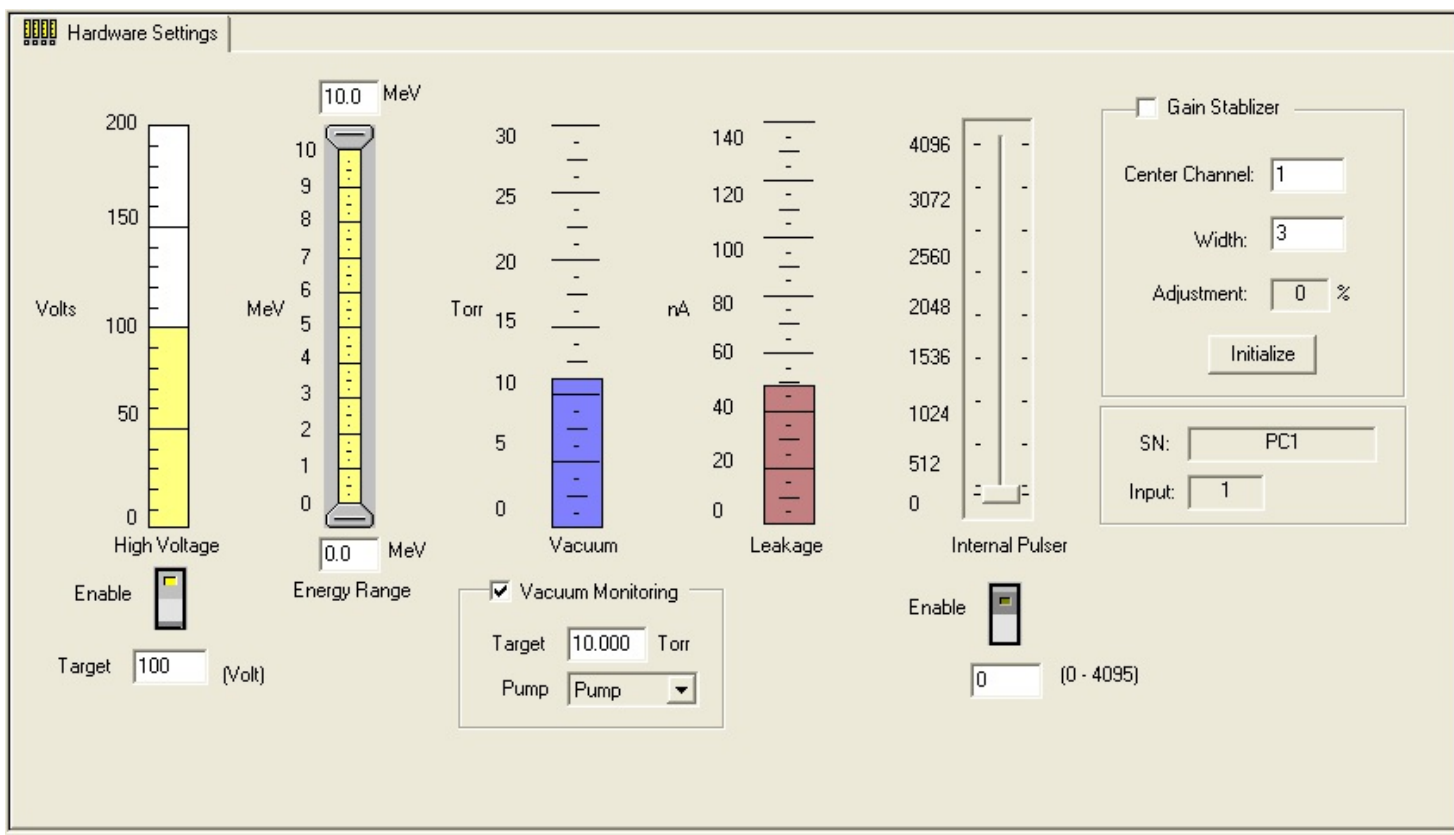

Fig. 10. Alpha Duo or Mega Chamber Hardware Readouts in AlphaVision
- **AlphaVision** — On the Detector Grid, click on the desired alpha chamber, then click on the Hardware icon on the outlook sidebar. Select the vent, pump, and hold settings as needed from the **Pump** droplist. (See Fig. 10, page 17.)
AlphaVision uses a Hardware panel (Fig. 10) to display most of the controls from the Alpha, Stabilizer, and HV tabs. (Note that when you view the AlphaVision **Chamber Properties** for a Duo or Mega chamber, the Properties dialog does not display the Alpha tab.)